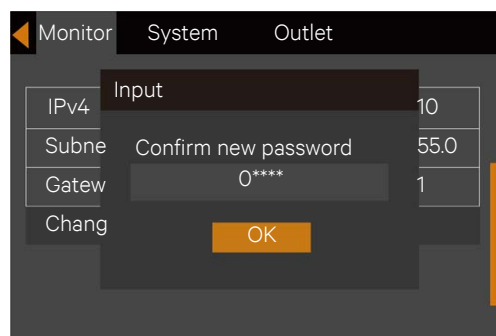

Figure 5-24 Confirming new password
5. After entering the new password, press the  key to confirm it, at this point the system requests the user to confirm the new password by entering it again. See Figure 5-24.